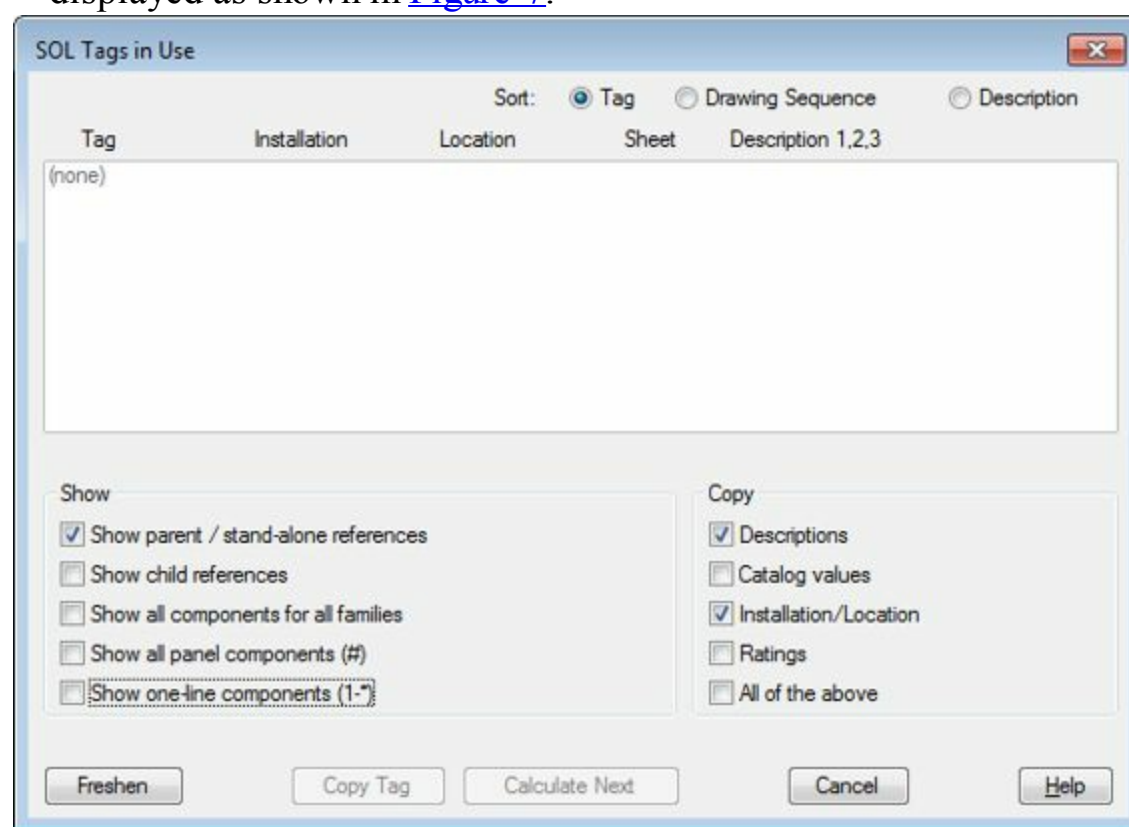

*Figure-6. PLC IO Point List dialog box*
- Click on the **Drawing** button to display all the PLC connections available. The **PLC I/O Point List (this drawing)** dialog box will be displayed as shown in Figure-6.